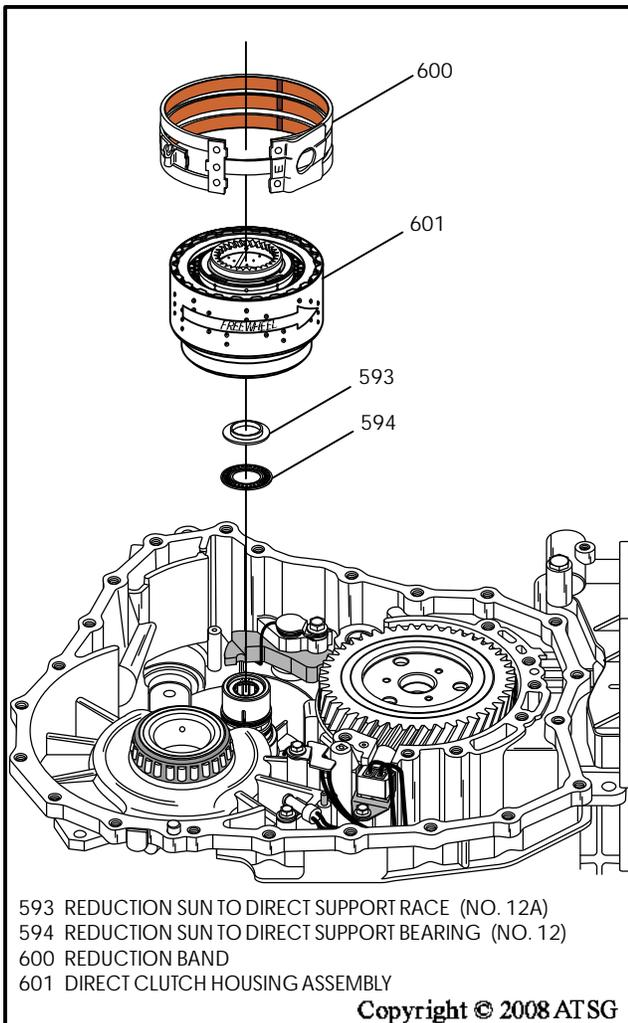

Figure 215
6. Install the number 12 thrust bearing and the number 12A thrust bearing race onto the direct clutch support, as shown in Figure 215.
7. Lubricate the inside sealing ring area of direct clutch housing with the proper fluid and install the completed direct clutch housing, as shown in Figure 215.
Note: After installation, direct clutch housing should freewheel counter-clockwise and lock clockwise, as shown in Figure 215.
8. Install the reduction band assembly, as shown in Figure 215, and engage with the previously installed servo pin and band anchor.